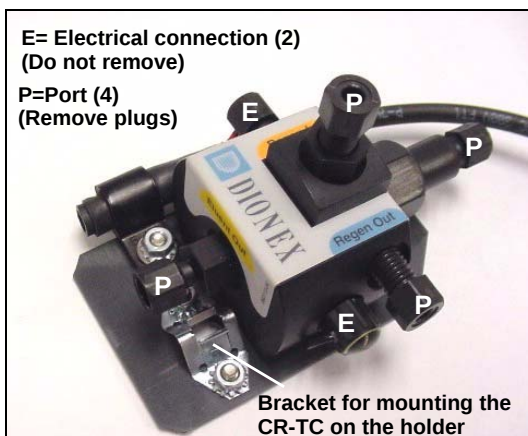

Figure B-33. CR-TC
2. Before installing the CR-TC, note the metal ball stud inside the bottom of the cartridge holder (see Figure B-32) and the bracket on the CR-TC mounting plate (see Figure B-33). These are used to mount the CR-TC inside the holder after it is plumbed.
3. Remove the plugs from the four ports, labeled “P” in Figure B-33. **Do not remove the two electrical connections, labeled “E” in the figure.**